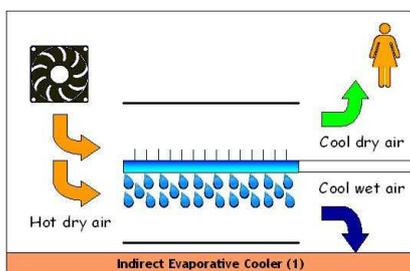
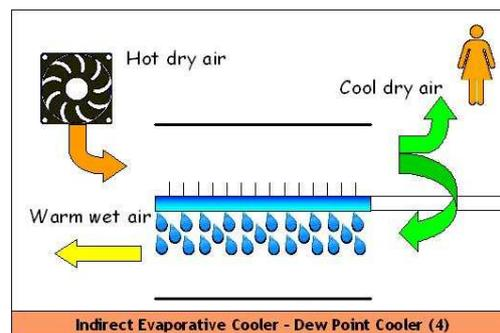

Figure 2. Indirect evaporative cooler (1).
Figure 5. Indirect evaporative cooling - Dew point cooler.
The most obvious solution to the problem of high humidity in the cool air, is to use the moist, cool airstream for cooling a second airstream (which is not by itself moisturized). This principle is known as indirect evaporative cooling. There are a number of possible configurations for creating an indirect evaporative cooler, of which Figure 2 shows the simplest setup. Here, the “dry” side of the evaporating surface is formed as the
An interesting setup of the indirect evaporative cooler, known in the Netherlands as a “dew point cooler”, is given in Figure 5. It is an efficient setup, which uses only one fan and where the humidifier and the heat exchanger have been combined - similar as in indirect evaporative cooler (1) (Figure 2).